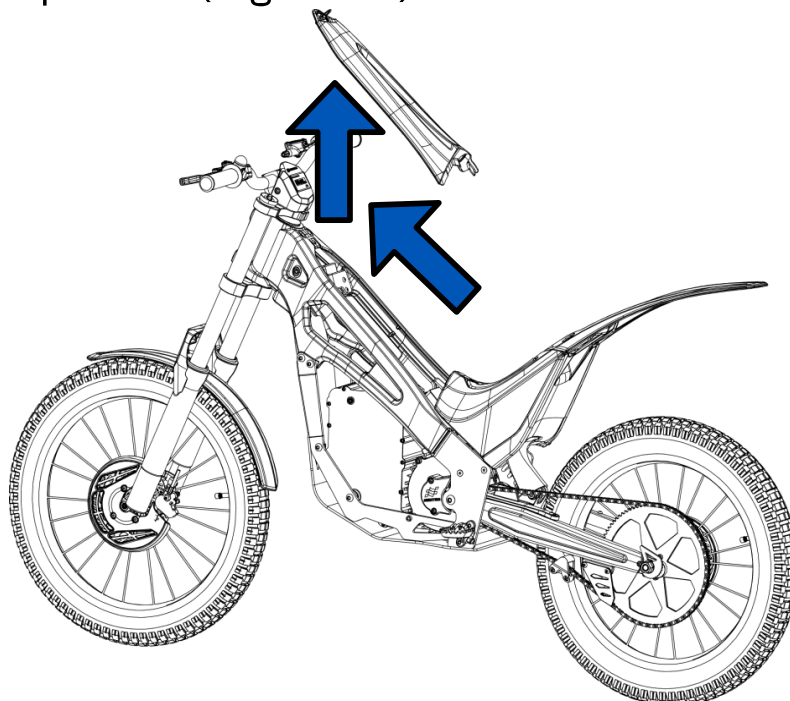

Fig. 37
3- Move the cover forward and then you can remove the upper casing of the motorcycle upwards (Figure 37).
- 3- Remove the top cover of the motorcycle (Figure 37).